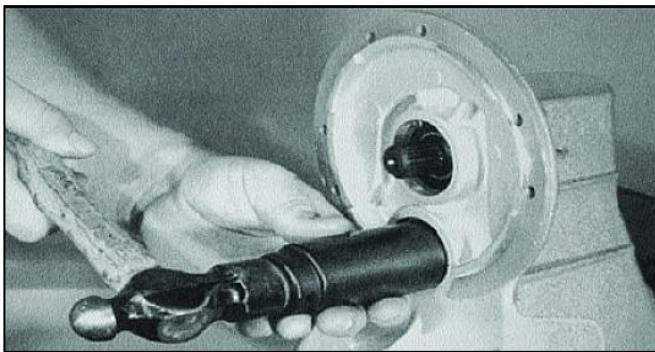

Figure 7-23
12. See Figure 7-23. Install new intermediate cup plug (11) to both sides of housing (1). Use Loctite Safety Solvent #75559 to clean bores, then apply Loctite RC 609 to housing bores. Cup plugs can be installed by using a properly sized driver and hammer. Cup plugs should be firmly seated against snap rings (4).